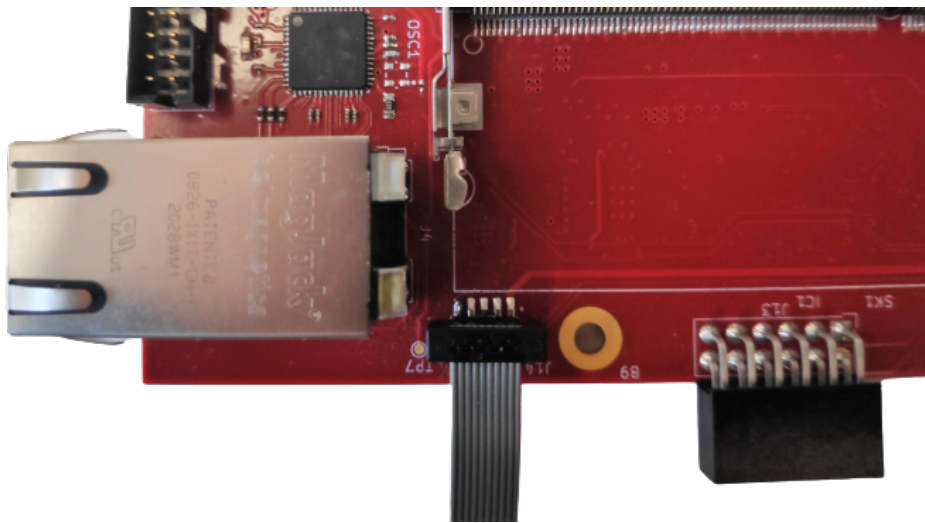

Figure 3: J14 connector.
1. Connect JTAG module to J14 like it is shown on Figure 3.